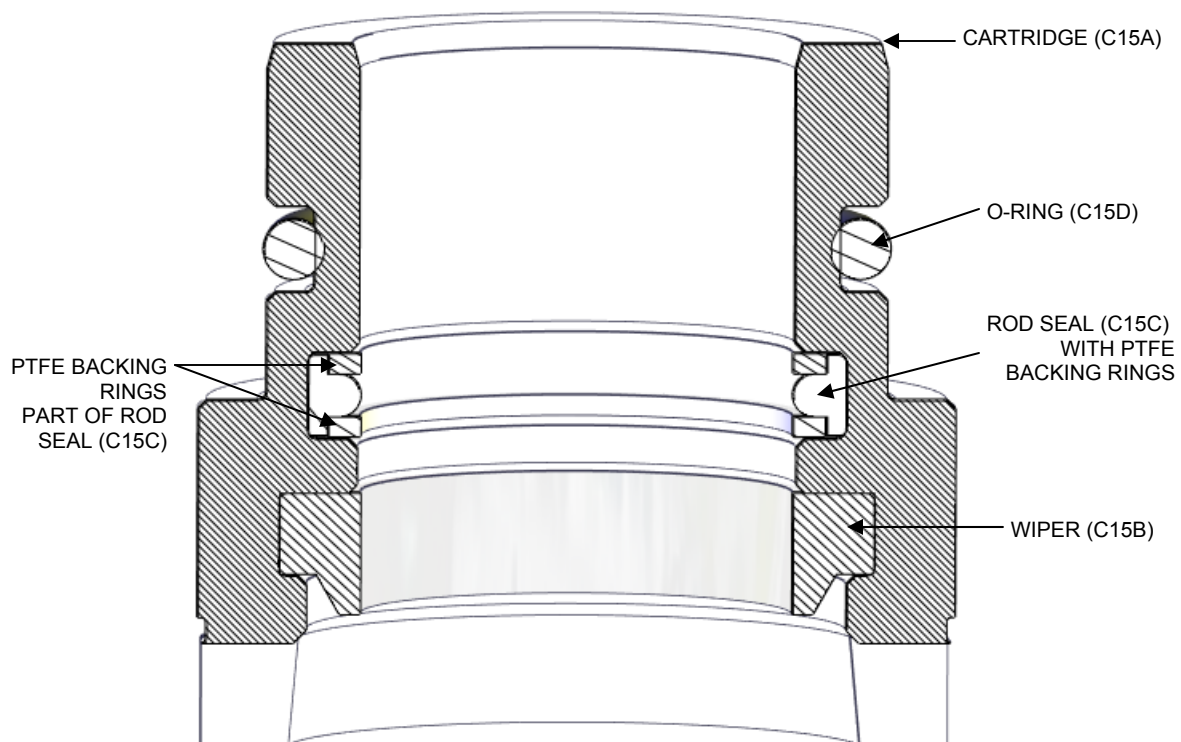

Figure 3: Cartridge Assembly (C15)
See Figure 3. The rod seal (C15C) and wiper (C15B) are installed in the cartridge, along with an o-ring (C15D).
4. Remove the wiper (C15B), rod seal (C15C) and o-ring (C15D) from the cartridge (C15A) (Fig. 3).
1. Clean the cartridge (C15A on Fig. 3) grooves and lubricate with Dow Corning Number 44 lubricant, or Dow Corning Number 55 in cylinders for -40°C to -50°C service.
2. Insert the rod seal (C15C) into its groove, making sure it lies flat in the groove. Insert the PTFE backing rings as shown in Figure 3. NOTE: The backing rings are cut with a bevel; make sure the beveled ends of the rings ends meet but do not overlap.